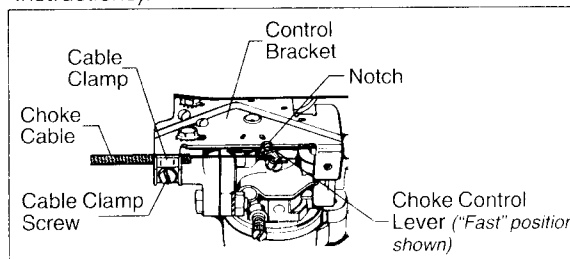

FIGURE 10: Choke Cable Adjustment
- b. Loosen cable clamp screw so choke cable moves in cable clamp (figure 10).